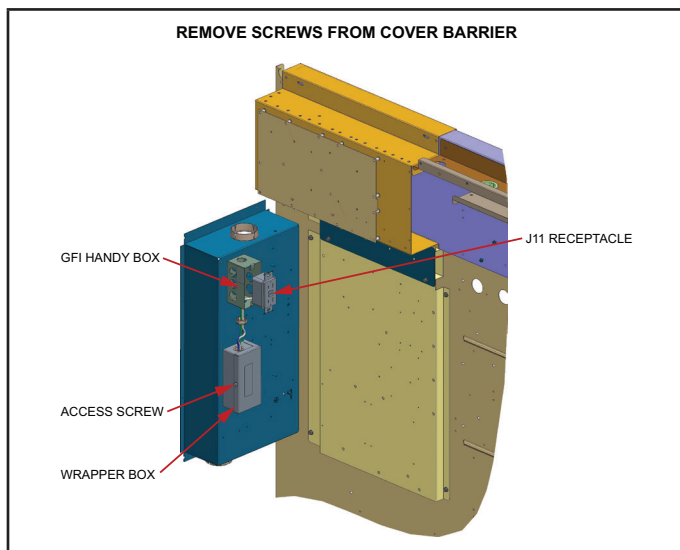
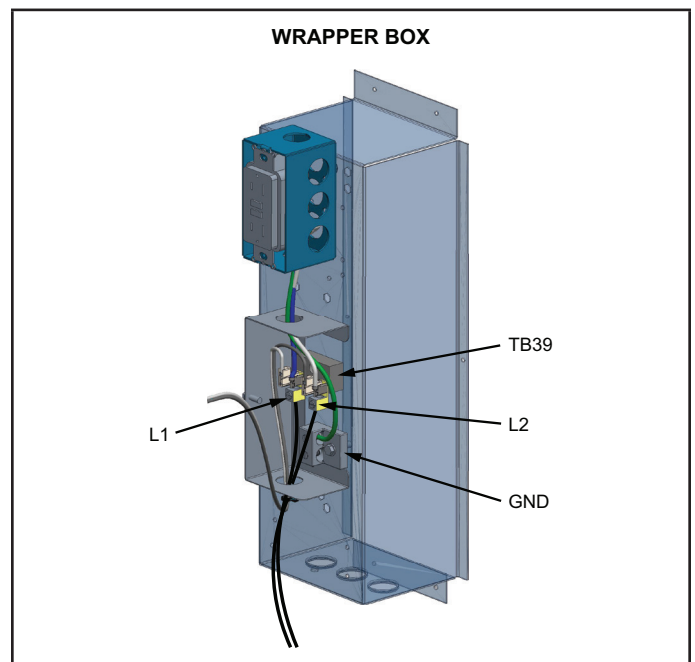

FIGURE 4
FIGURE 5
- 1 - Open the control access panel to access behind the disconnect box. Locate the wrapper box and remove the screws from the cover barrier as shown in FIGURE 4.
- 2 - Locate terminal block TB39. See FIGURE 5.
- 9 - These components are no longer required and may be safely discarded. See FIGURE 4 & FIGURE 5.
- 1 - Locate the GFI handy box. See FIGURE 4.